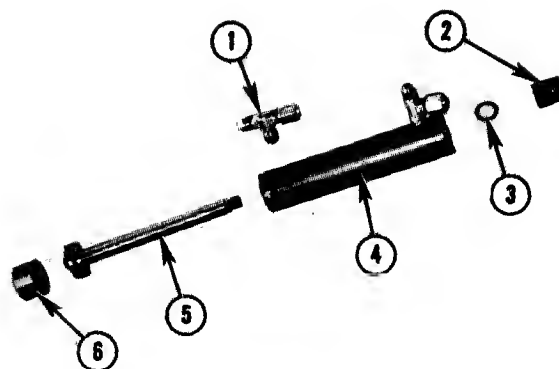

FIG. 5.10--TYPICAL LIFT CYLINDER PARTS
2. Using a soft face mallet and punch, gently drive the piston shaft inward until the plug (item 6, figure 5.10) can be removed from the end of the cylinder barrel. Be careful to avoid damaging threads on piston rod when doing this.